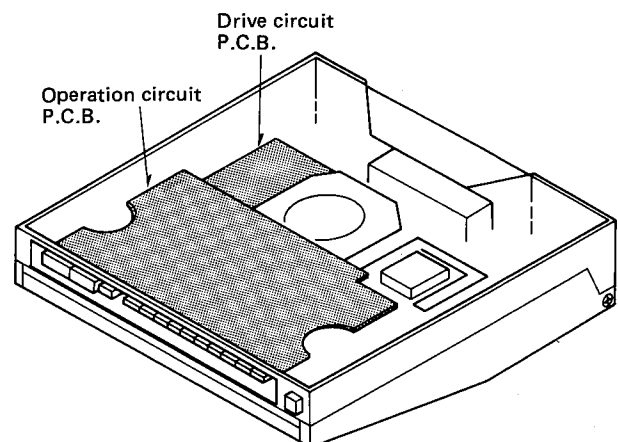

Fig. 25
3. How to turn over the set (Fig. 25)